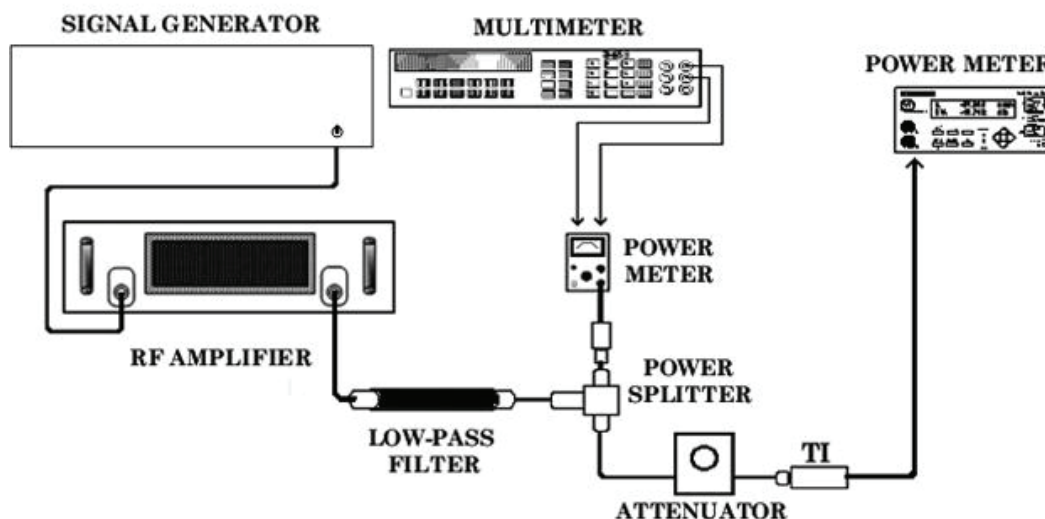

Figure 2. Power sensor linearity and CALFAC equipment hookup.
a. Connect equipment as shown in figure 2.
- (1) Connect equipment as shown in figure 2, except remove low pass filter.
- (2) Set the variable attenuator to 70 dB. Connect TI sensor to TI front panel **CALIBRATOR** output and zero the TI by pressing **ZERO/CAL**.
- (3) Set the variable attenuator to 0 dB after the TI chimes to signal completing the zeroing process. Reconnect sensor to equipment hook up.
- (4) Set the multimeter to a range that results in a 1 μ V resolution. Connect the positive and negative leads to the V_{COMP} and V_{RF} connectors respectively on the rear panel of the power meter.
- (5) Fine zero the power meter and set power meter **RANGE** switch to **1 mW**.
- (6) Record the multimeter indication as V_0 .
(7) Set the signal generator output to 1.0 GHz and level to 1.00 mW as indicated on the power meter.
(8) Record multimeter reading as V_1 . Record TI reading as P_i .
(9) Disconnect the multimeter negative lead from the V_{RF} connector on the rear panel of the power meter and connect it to chassis ground. Record this voltage as V_{COMP} .
(10) Calculate that actual power using the formula listed below and record as P_t .